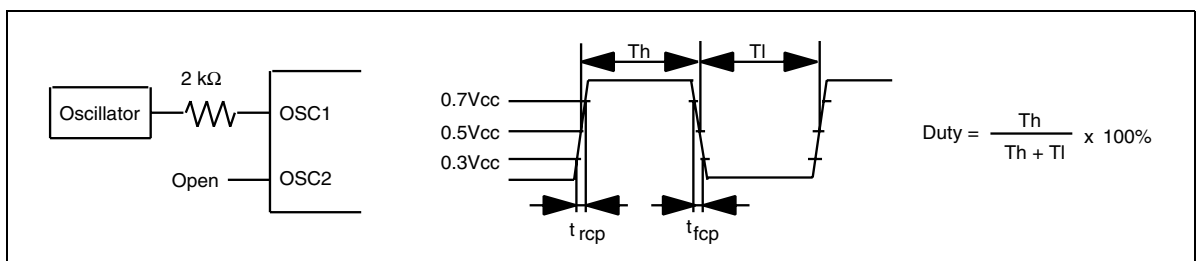

Figure 55 External Clock Supply
9. Applies to the external clock input (figure 55).